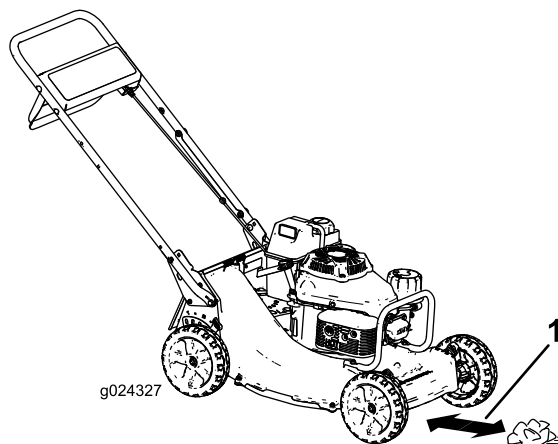

Figure 15
- Place the newspaper ball about 13 cm (5 inches) in front of the machine (Figure 15).